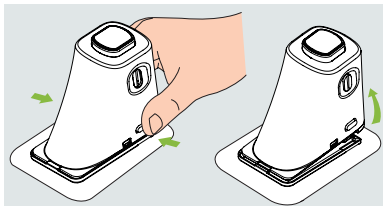

Figure 18
5. Release the inserter from the pump base by pressing the button on the lower end of the cannula inserter as shown in Figure 18. If the inserted needle or needle base remains in the pump base, carefully remove it from the infusion site. Place the protective sleeve back onto the cannula assembly.